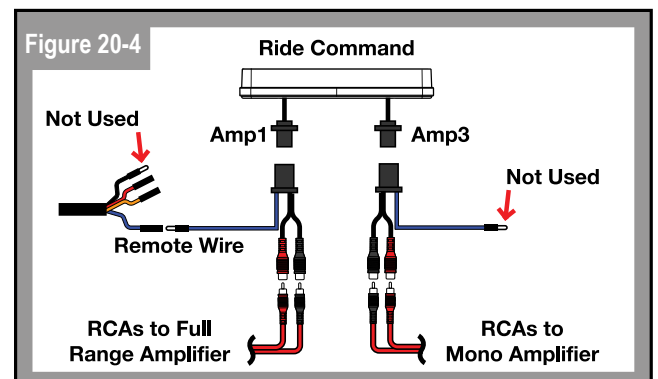

Figure 20-4
Route and connect AMP1 blue wire (remote amp turn on) from the adapter to the blue wire in audio system's four-wire source unit harness. Only the blue wire connects. The three remaining wires are not used in a Ride Command application. See Figure 20-4.
Route and connect the RCA audio cables from the AMP1 adapter to the NA2-400.2RC two-channel full range amplifier. See Figure 20-4.
Carefully place the amplifier plate into position as shown in Figure 20-4. Be sure the wiring harness and connectors are all intact and nothing has come unplugged.
- **if you have the Dynamix® ECU and/or OEM amplifier bracket** - Tighten the remaining two (2) 10mm bolts to securely mount the dual amp plate. This is shown in Figure 20-4.
- **If NO Dynamix® ECU or OEM amplifier bracket** - Secure the dual amplifier plate. Simply substitute the (2) 10mm screws in Figure 20-4 and use the two (2) T40 screws provided with the MB Quart Stage 5 kit to securely mount the dual amp plate